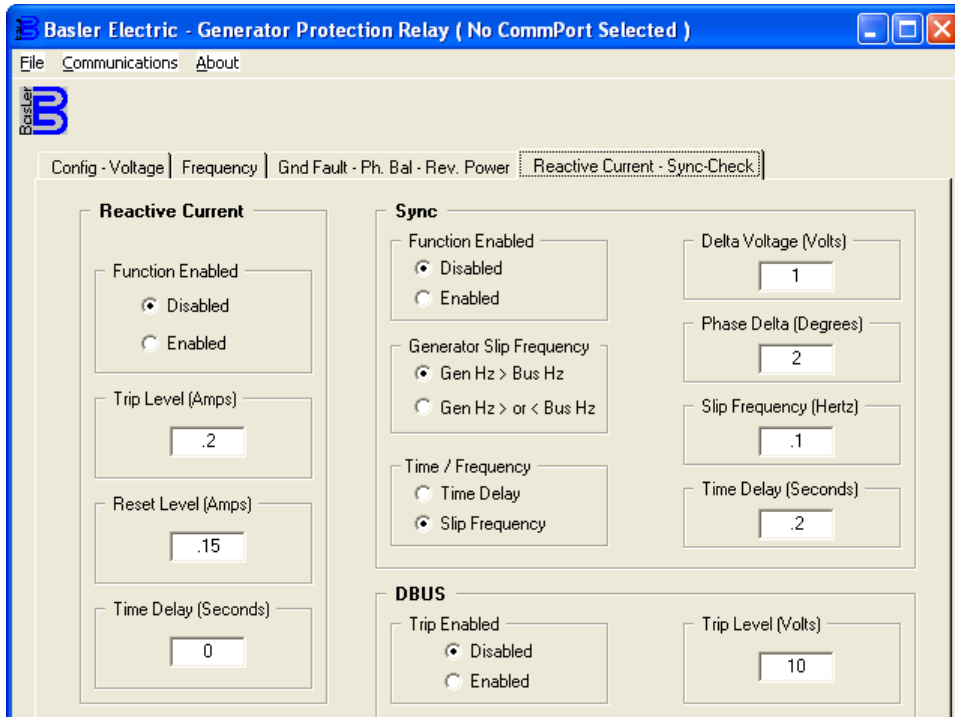

Figure 5-9. Reactive Current - Sync-Check Tab Settings
The Reactive Current – Sync-Check tab in both version of software contains reactive current (loss of excitation (40)), synchronism-check, and dead bus protection settings. Reactive Current – Sync-Check tab settings are shown in Figure 5-9.